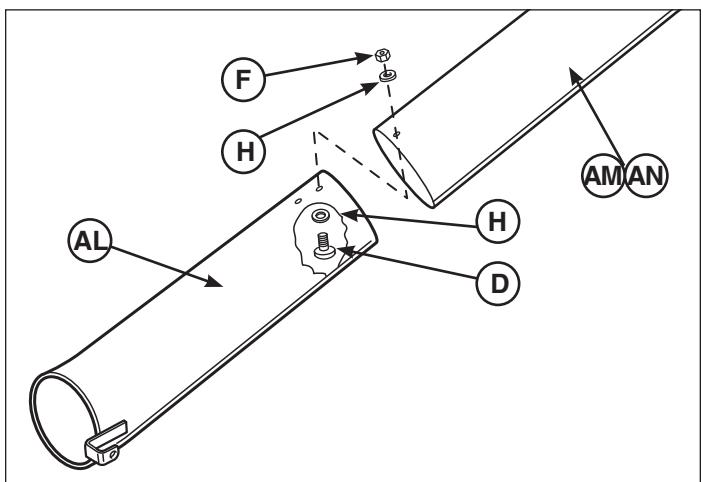

Figure 27
4. Slide upper tube (AM / AN, Figure 27) over lower tube (AL) and secure with screw (D), washers (H) and nut (F).